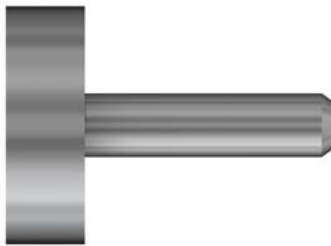
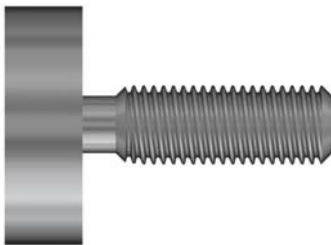

Figure: 5 Before rolling
Figure: 6 After rolling
2. The piece part is turned down to the pitch diameter, minus .002" / .05mm, with a chamfer machined to .010"-.020" (.25mm-.5mm) below the root diameter. The angle of the chamfer should be no more than 30 degrees to the axis, with 20-25 degrees being ideal (See figure 5). After rolling, the resultant chamfer should be approximately 45 degrees, due to the flow of material at this point (figure 6).